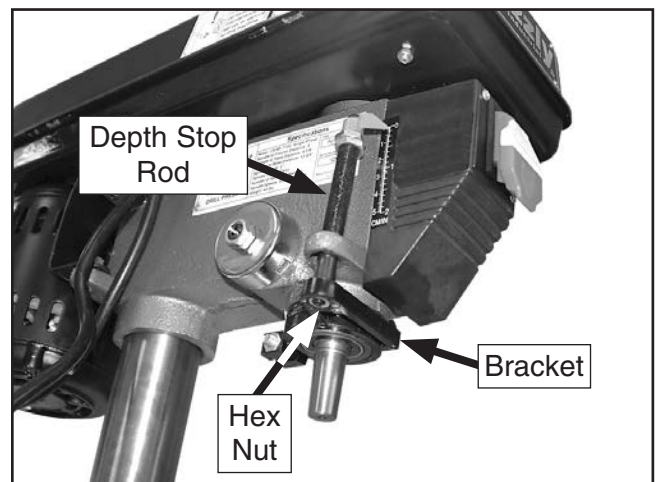

Figure 1. Depth stop rod and bracket.
1. Unthread the depth stop rod (see **Figure 1**) from the hex nut under the bracket, then remove it from the machine.